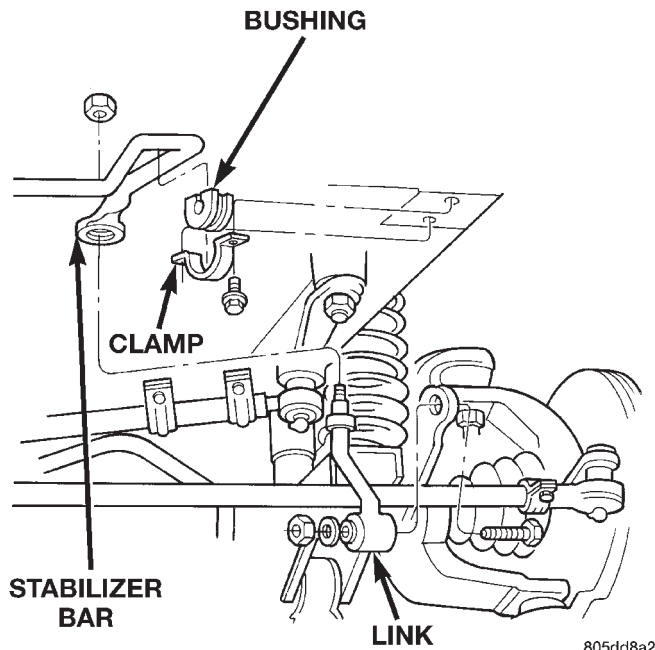

Fig. 7 Stabilizer Bar
- (1) Raise and support the vehicle.
- (2) Remove upper link bolts (Fig. 7) and separate links from the stabilizer bar with Remover MB-990635.
- (3) Remove the stabilizer bar clamps bolts from the frame rails and remove the stabilizer bar.
- (4) Remove the stabilizer bar link nuts from the axle brackets (Fig. 7).